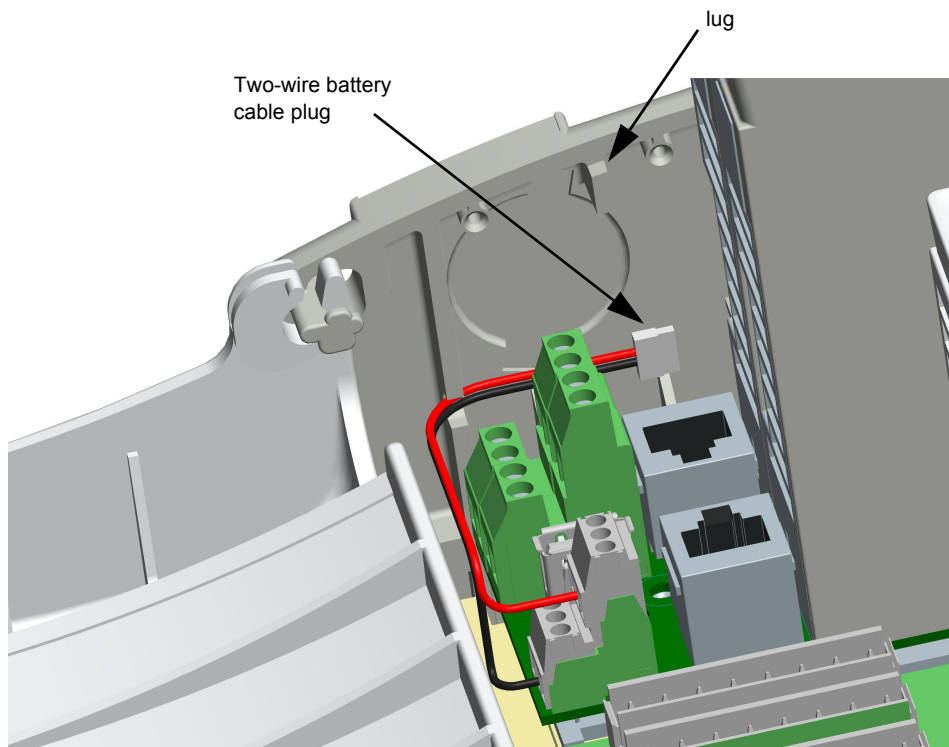

Figure 40: Battery board removed
- Carefully manoeuvre the battery board out from the plastic side panel. Unplug the two-wire cable from the board end (Figure 40)..